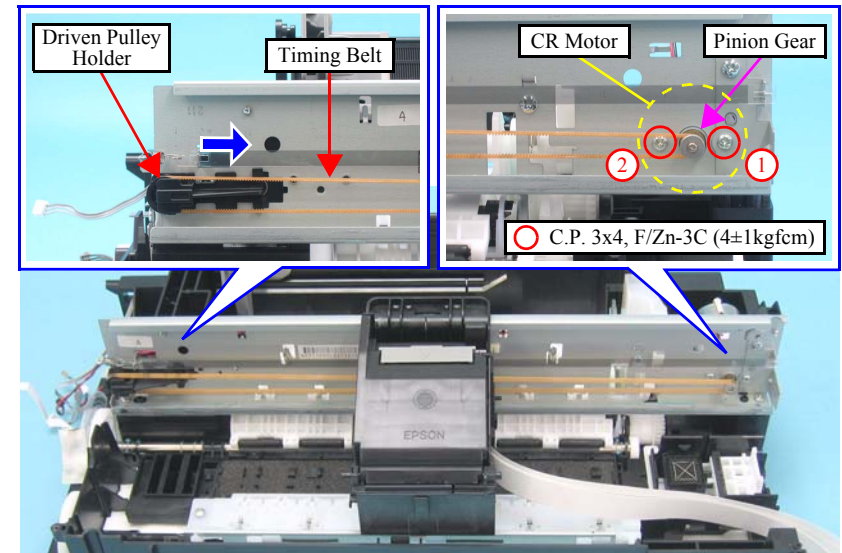

Figure 4-73. Removing the CR Motor (2)
- Tighten the screws in the order given in Figure 4-73.